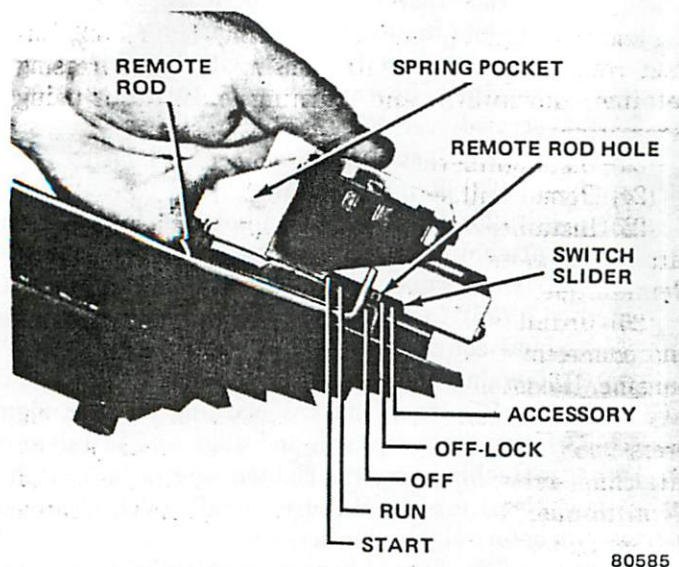

Fig. 2J-64 Ignition Switch Installation
(a) Move switch slider to Accessory position then back two clicks to Off-Unlock position. Remote rod hole in slider should be almost at center (fig. 2J-64).
(39) Position switch harness protectors, if equipped, over harness and snap protectors into place on column.
(40) Install lock plate cover.
(41) Install steering wheel. Tighten steering wheel nut to 30 foot-pounds (41 N•m) torque.
**CAUTION:** Some steering shafts have metric size steering wheel nut threads. Identify the shaft nut thread type before installing a replacement nut. Metric shafts have an identifying groove in the steering wheel locating splines (fig. 2J-2). American thread shafts do not have this groove.
(42) Remove column support fixture and install column mounting bracket. Tighten bracket attaching bolts to 20 foot-pounds (27 N•m) torque.
(43) Install column, if removed. Refer to Steering Column Installation.